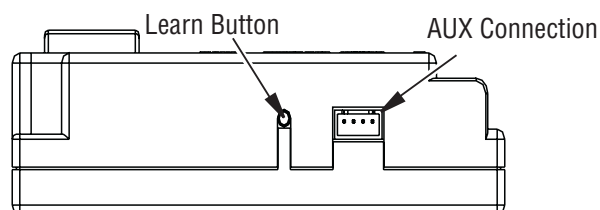

Figure 27 - Gas Module Left Side
- To program the module (make sure the system has power), locate the learn button (Figure 27) on the module. Locate the metal shield that is covering the module and remove the screw on top. Use a small thin object like a paper clip (not sharp points) to press and release the learn button. There will be a beep sound from the module. Then press any button on the remote transmitter. Once the module's internal receiver accepts the transmitter code, there will be a series of confirming beeps.